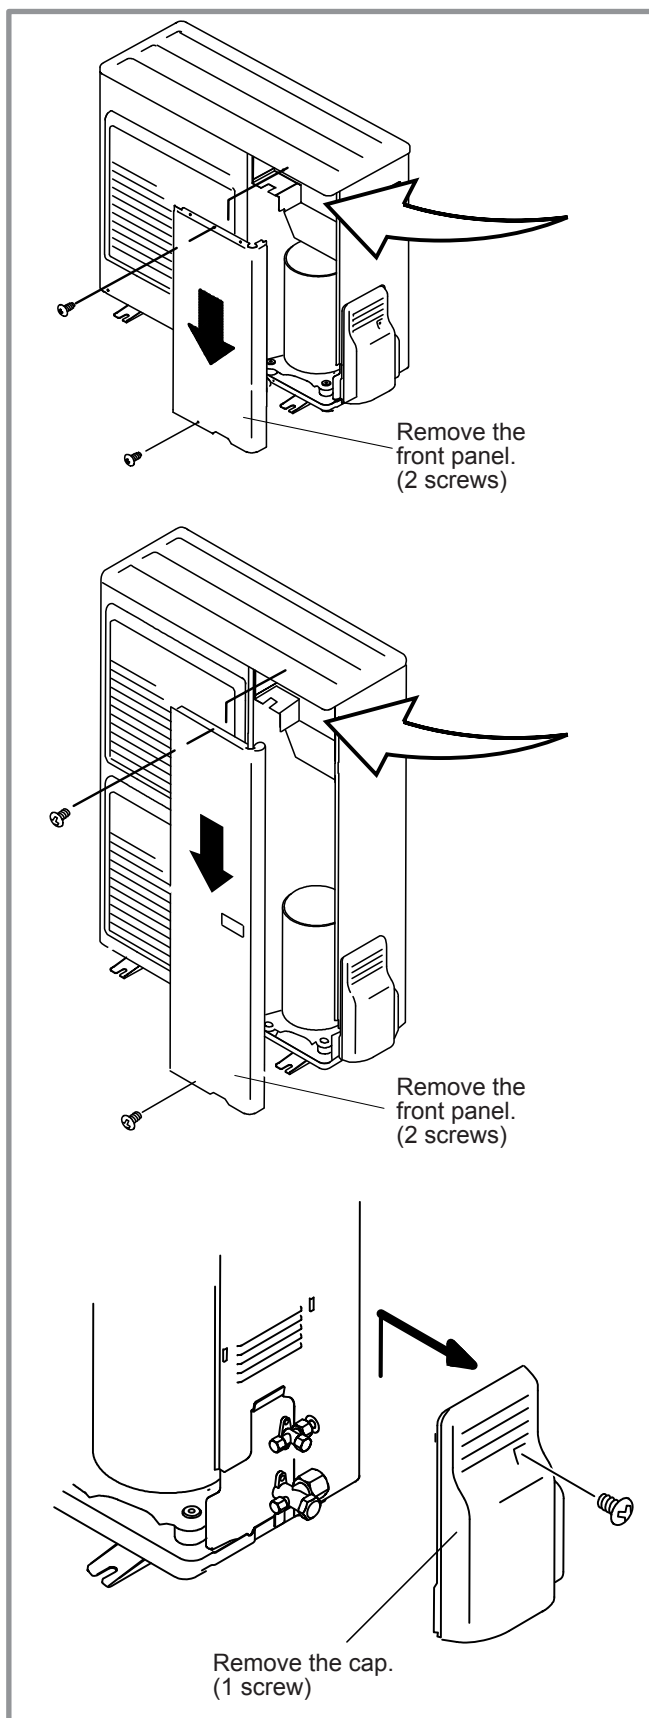

figure 25 - Access to outside unit's terminal block
- Remove the front panel, remove the cap (figure 25).